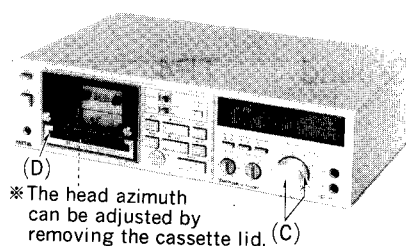
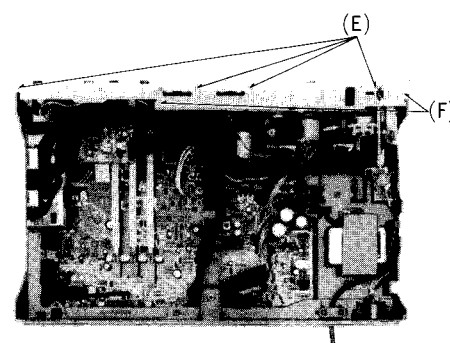
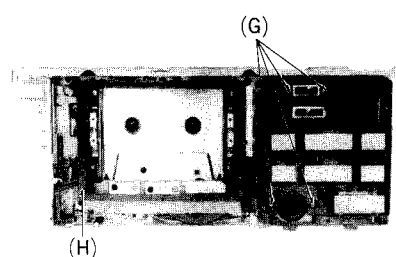
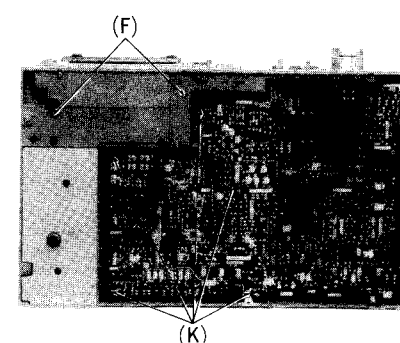

Fig. 2
Fig. 3
Fig. 4
Fig. 6
A Head azimuth adjustment Condition: • Playback mode Equipment: • VTVM • Oscilloscope • Test tape (azimuth) ... QZZCFM • Tape path viewer ... QZZCRD	Record/playback head adjustment 1. Test equipment connection is shown in fig. 2. 2. Playback azimuth tape (QZZCFM 8kHz). 3. Adjust record/playback head angle adjustment screw (B) in fig. 3 so that output level at LINE OUT becomes maximum. 4. Measure both channels, and adjust levels for equal output. 5. After adjustment lock head adjustment screw with lacquer.  Fig. 2 Erase head adjustment 1. Test equipment connection is the same above but use the tape path viewer (QZZCRD) instead of test tape (QZZCFM). 2. Playback this tape. 3. Adjust screw (C) shown in fig. 4 so that the tape may not get curled or malformed by tape guide of the erase head. 4. After adjustment, lock head adjust screw with lacquer.  Fig. 3 Fig. 4
C Playback frequency response Condition: • Tape selector ... Normal position • Playback mode Equipment: • VTVM • Oscilloscope • Test tape ... QZZCFM	1. Test equipment connection is shown in fig. 2. 2. Place UNIT into playback mode. 3. Playback the frequency response test tape (QZZCFM). 4. Measure output level at 12.5 kHz, 8 kHz, 4 kHz, 1 kHz, 250 Hz, 125 Hz and 63 Hz, and compare each output level with the standard frequency 315 Hz, at LINE OUT. 5. Make measurement for both channels. 6. Make sure that the measured value is within the range specified in the frequency response chart. (shown in fig. 6).  Fig. 6
㊦ Playback gain Condition: * Tape selector ... Normal position * Playback mode Equipment: * VTVM * Oscilloscope * Test tape ... QZZCFM	- Test equipment connection is shown in fig. 2. - Playback standard recording level portion on test tape (QZZCFM 315Hz, 0 dB), and using VTVM measure the output level at LINE OUT jack. - Make measurement for both channels. Standard value: $0.7V \pm 1.5\text{ dB}$ Adjustment - If measured value is not within standard, adjust VR3 (L-CH), VR4 (R-CH) (shown in fig. 1). - After adjustment, check "Playback frequency response" again.